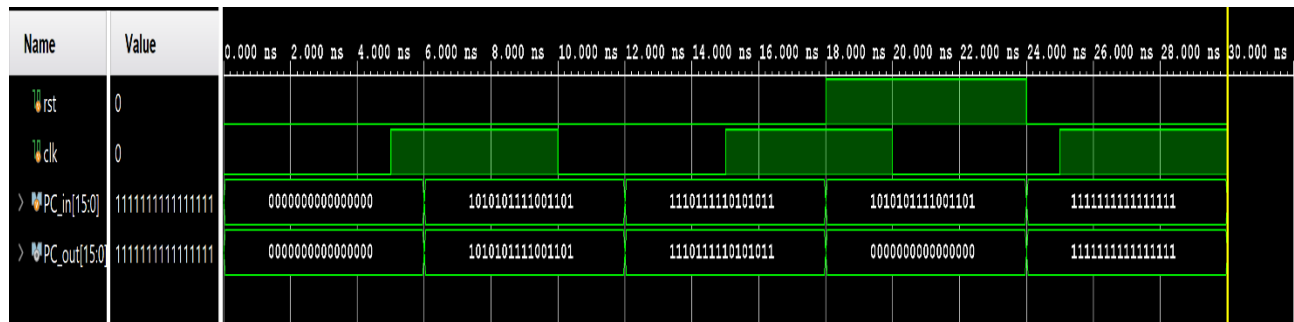

Figure 1. Simulation of Program counter over 30 ns.
The Program Counter (PC) takes in a 16-bit input (PC\_in) and immediately sends that same value to a 16-bit output (PC\_out). Therefore, at 6ns when PC\_in = 1010\_1011\_1100\_1101, PC\_out outputs the same value. However, when reset is high, PC\_out will reset to 0000\_0000\_0000\_0000, no matter what value is input to the PC as shown in **Figure 1** at 18ns.